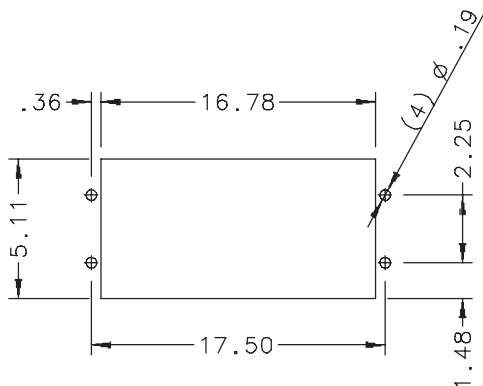

Figure 1
3. Make the appropriate cutout and mounting holes as shown in figure 1.